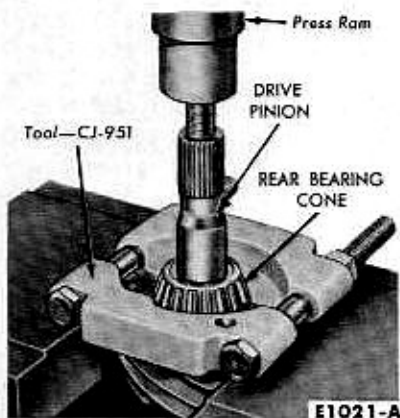

FIG. 15—Pinion Rear Bearing Cone Removal
12. Remove the pinion rear bearing cone (Fig. 15).